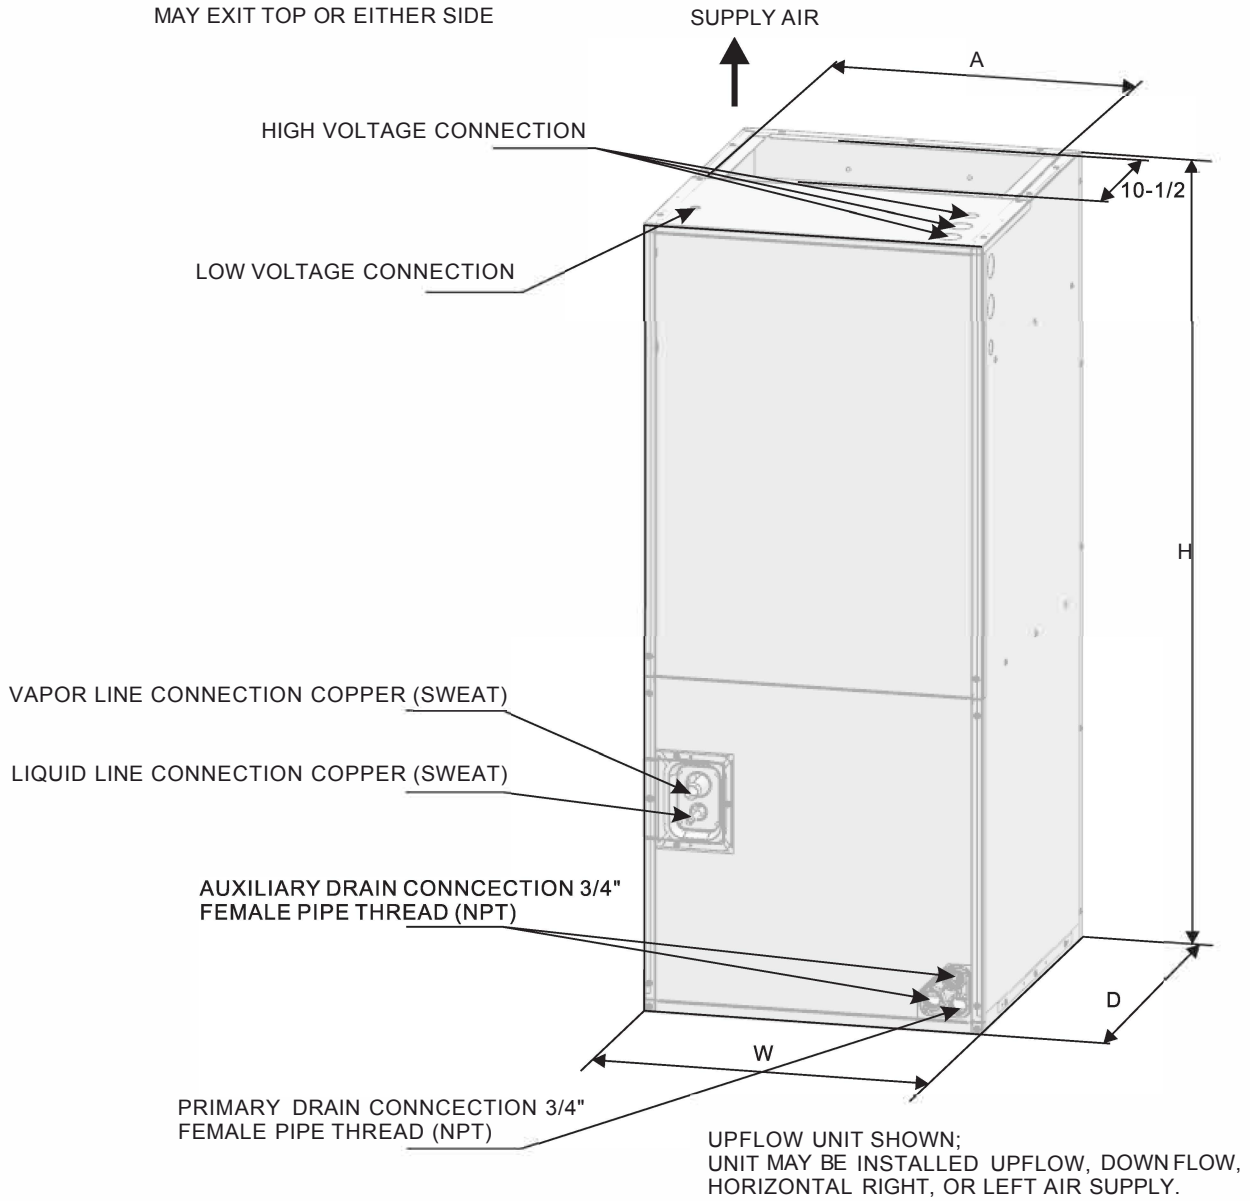

Fig.1 DIMENSIONS
Top and side power and control wiring, accessible screw terminals for control wiring all combine to make the installation easy, and minimize installation cost. Please contact your local distributor. See Fig.1.
- 1) Vertical Upflow configuration is the factory set on all models (see Fig 1)
Torque applied to drain connections should not exceed 15.ft.lbs.(see Fig.1 &2)